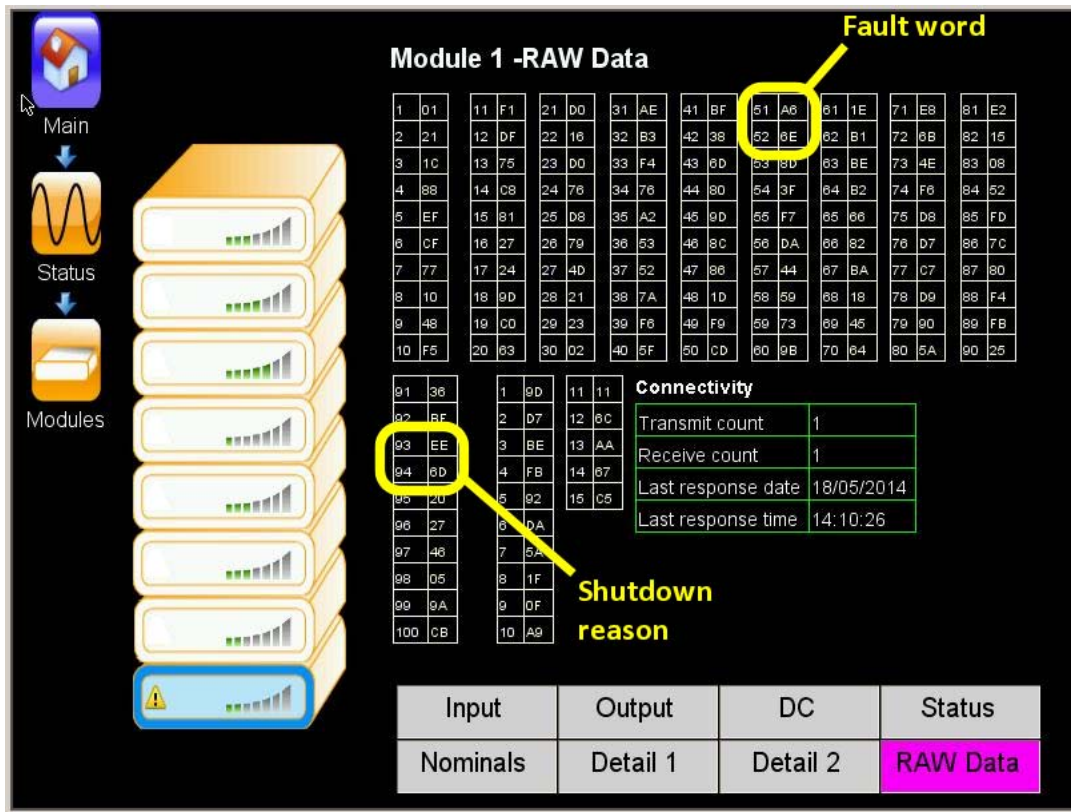

Figure 81: Shutdown reason in hex, and Fault_word
4. Additional information can be found in the communication array which is displayed in the “RAW Data” window (Figure 81). Bytes 51 and 52 together make up the fault word, described below.